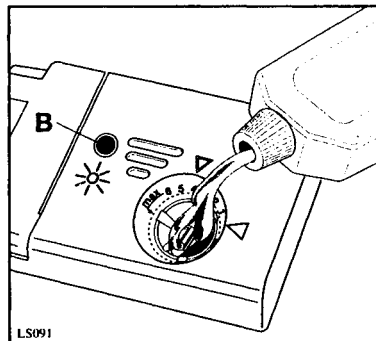

Fig. 5
You must top up again with rinse-aid when the display window on the rinse-aid dispenser (Fig. 5) shows a dark spot surrounded by a bright ring. When the rinse-aid dispenser is full, the display window (B) appears uniformly dark (after about 70-80 ml).